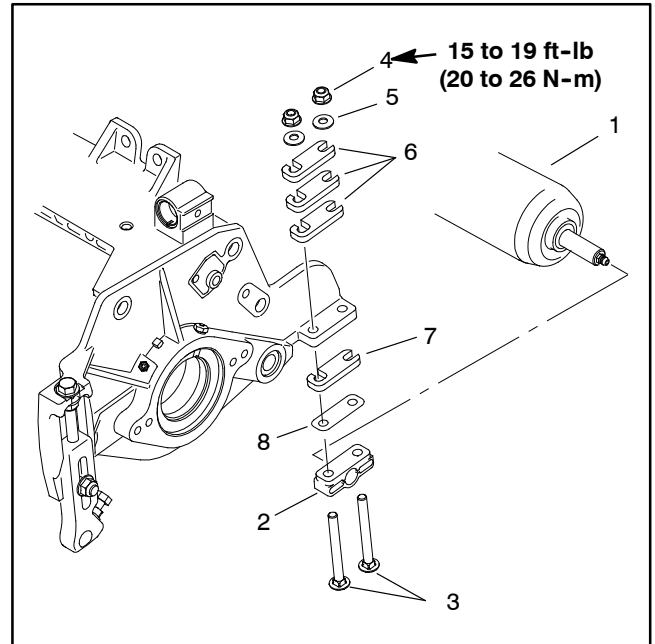

Figure 47
### Removal (Fig. 47)
### Installation (Fig. 47)
2. If both rear roller brackets were removed from cutting unit side plate, position brackets and roller shims to one of the side plates, and install two (2) carriage screws and flange nuts to retain bracket in position. Install slotted roller shims as shown (Fig. 47). Do not fully tighten flange nuts.
4. Slide second rear roller bracket onto the other end of roller shaft. Secure second roller bracket and shims to cutting unit side plate with two (2) carriage screws and flange nuts. Install slotted roller shims as shown (Fig. 47). Do not fully tighten flange nuts.